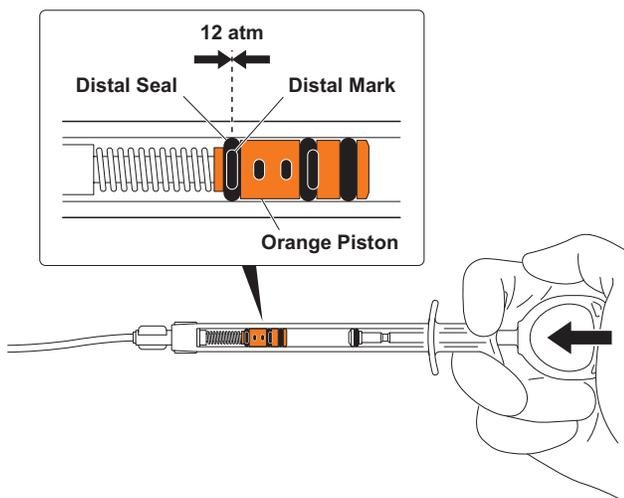

Figure 5 – Alignment between Distal Seal and Distal Mark corresponds to 12 atm
3. Perform a test inflation of the system by depressing the plunger rod until the distal black seal on the orange piston is aligned with the distal black mark of the inflation syringe (figure 5). If the seal and black mark do not align, disconnect the inflation syringe with inflation lock from the extension line and repeat the prepping process.
- 4.1. Slowly depress the inflation syringe plunger rod to inflate the balloon. The pressure should be increased slowly (3-5 seconds) until the orange piston bottoms out (distal black seal of the piston reaches the distal black mark on the Inflation Syringe – see Figure 5). If these do not align, deflate the balloon and remove the Audion dilation device and perform a test inflation (as described in steps 3 and 4 of the System Preparation section). Alignment of the distal mark and distal seal will ensure that 12 atm of pressure is reached.